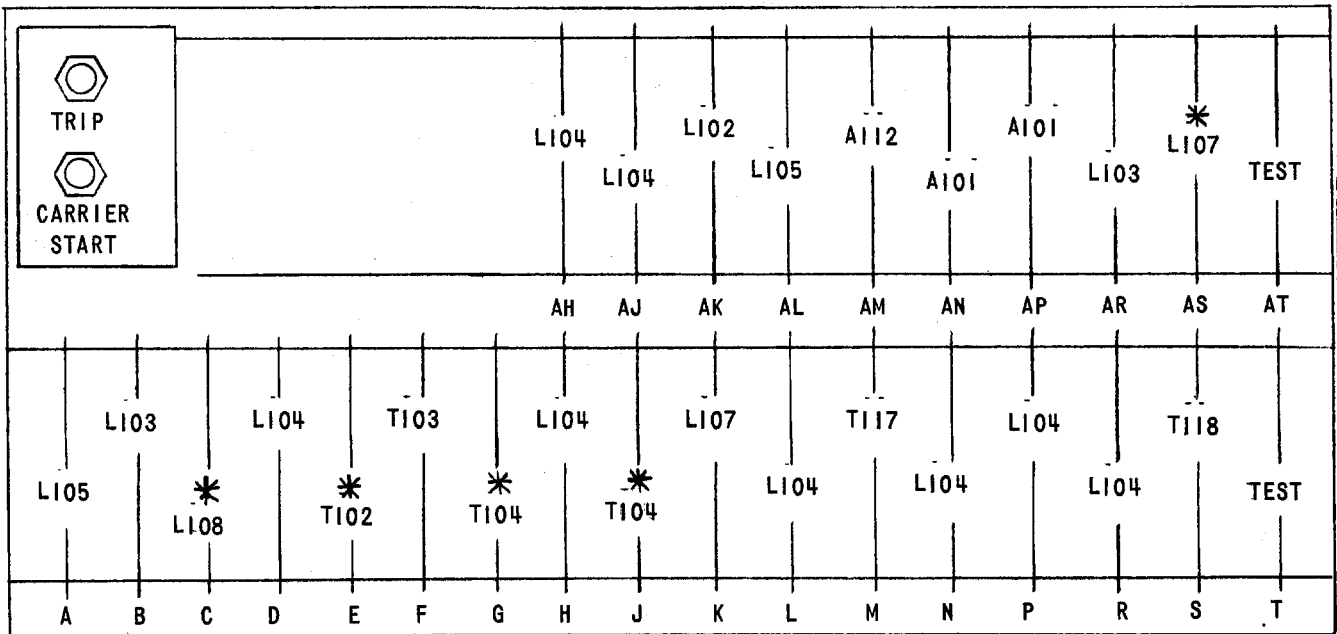

FIG. 2 (0257A8404-0) Component Location Diagram For The SLA51E Relay
Other logic options are selected by means of taper tip jumpers and matrix blocks. These matrix blocks are located in the rear of the unit as shown in Figure 2. The green (G) matrix block has ten points in two 5 point common groups. The black (B) matrix block has 20 individual matrix points. The red (R) block has 20 points which are grouped in pairs. The yellow (Y) block has 20 points which are grouped in 10 common points; 1 to 10 are tied to +15 VDC, 11 to 20 are tied to reference. There are two yellow blocks in the SLA51E. The connections to both are identical and the option connections are interchangeable).